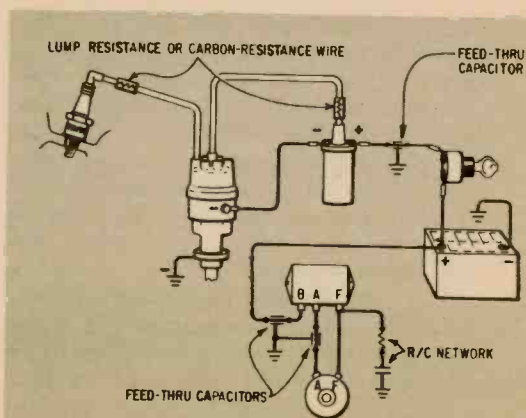

Fig. 1—Completely suppressed ignition system. Resistance plugs may be substituted for resistance suppressor at top of plug; retune engine.
A unijunction transistor basically is a diode to which an extra connection is made (for this reason it first was called a double-base diode). As shown at the left in Fig. 1, the transistor consists of a bar of doped silicon to which connections are made at the ends—called the bases (B1 and B2). In the center of the bar there's a semiconductor junction which forms the emitter (E).
Fig. 1—Simplified diagram at left shows construction of unijunction transistor. In equivalent-circuit schematic at right, diode represents P-N junction between emitter and bar. RB1 and RB2 represent resistance of doped-silicon bar, injector's fundamental output (center photo) is 600-cps, 4-V (P-P) spikes.
Only a small reverse current will flow in the E/B1 junction. (Schematic at right, Fig. 1.)
the pulses is 4-V, P-P, as shown in the photo in the center of Fig. 1. The injector's output impedance is high, which means it will work best with high-impedance tube circuits. It cannot be used to check, say, speakers.
Fig. 1—In pictorial, the following parts are mounted on top of board: all transistors, C9, C10, C12, C13, C15, R28 and R31. All other parts are mounted on back of board. Board is mounted on M1's terminals.
Start construction by mounting all the front-panel components. Install level controls R4, R8, R17 and R20 and put monitor jack J8 as close to the bottom panel edge as is possible. VU meter M1 should be mounted close to the top panel edge. Install *Bat. VU* switch S2 and *VU Cal.* control R26 between M1 and the edges of the panel about 1/2 in. above M1 horizontal center-line. Orient level controls R4, R8, R17 and R20 so their terminals point straight up as shown in Fig 1.